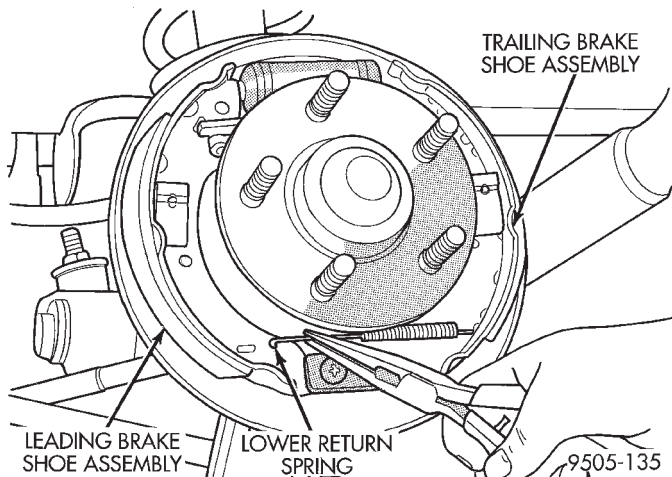

Fig. 65 Lower Brake Shoe Return Spring
(8) Remove the lower return spring from the leading and trailing brake shoe assembly (Fig. 65).
(7) Install the lower return spring onto the leading and trailing brake shoe assembly (Fig. 65).